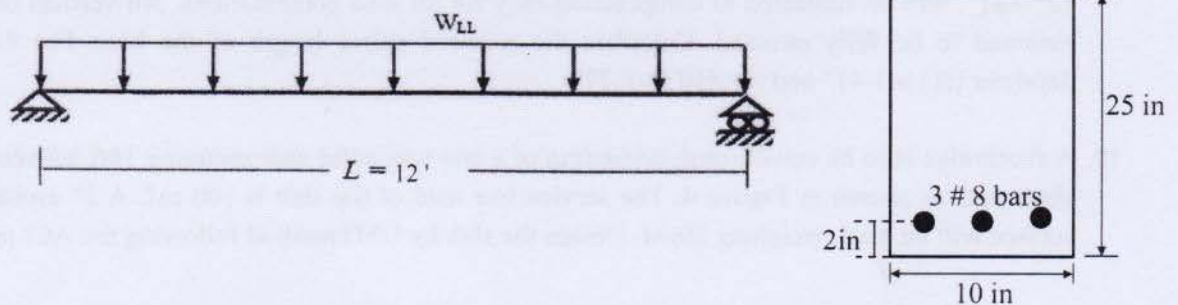

Figure: 1
3. Explain "Development length" and "Bundled bars" with proper sketches. (9)
4. Compute the uniformly distributed load ' W_{LL} ' that will produce the first tension crack at the section B of the RC rectangular beam shown in **Figure 1**. Consider self-weight of beam to calculate load. (15)